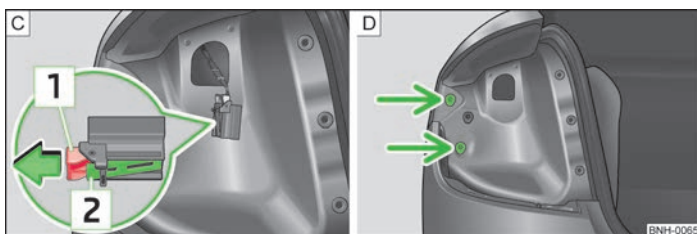
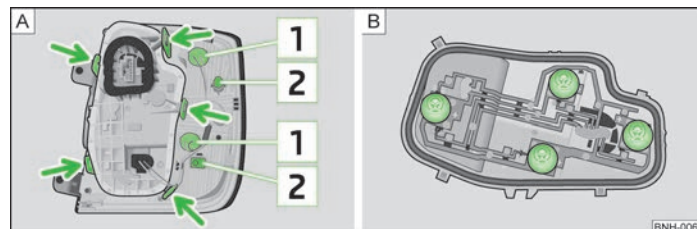

Fig. 134 Installing the lamp connector/lamp
Fig. 135 Outer part of the lamp/inner part of the lamp
- Pull the locking mechanism [1] » Fig. 134 on the connector in the direction of the arrow.
- Press the locking mechanism [2] » Fig. 134 and remove the connector.
- Carefully press the tail lamp assembly into the bodywork so that the bolts [2] » Fig. 135 on page 163 latch with the mounts in the body » Fig. 134 - [D].
- Turn the bulb holder [1] » Fig. 135 anti-clockwise remove it from the lamp housing.
- Unlock the bulb holder using the locking latches » Fig. 135 - [A] and remove the holder from the tail lamp.
- Turn the bulb holder anti-clockwise up to the stop and remove it from the lamp housing » Fig. 135 - [B].